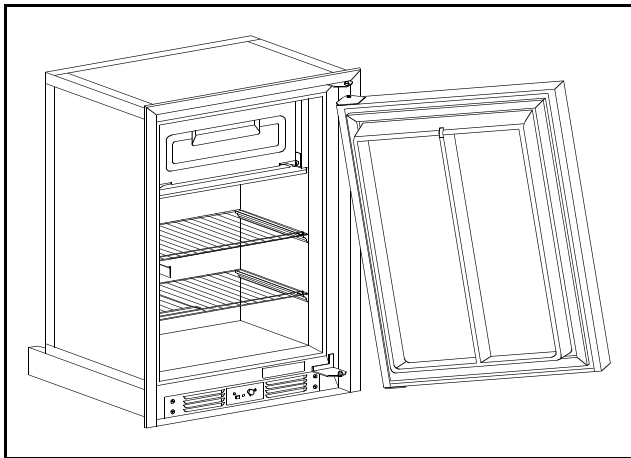

Figure 9
5. Remove the door by opening slightly and pulling the bottom of the door away from the refrigerator. Allow room to slide door down off the upper hinge pin shoulder (see Figure 9).